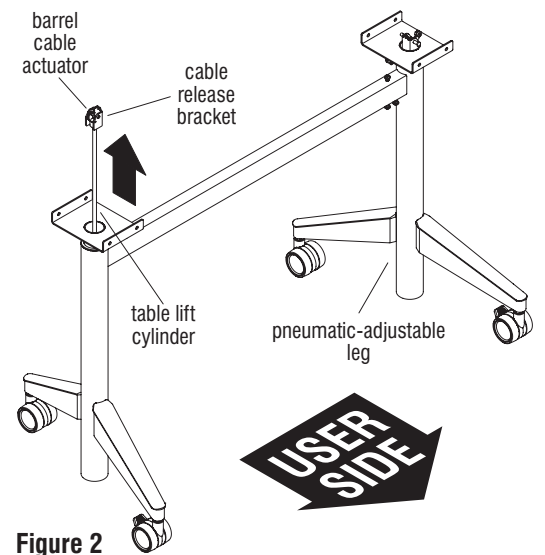

Figure 2
2. Flip the barrel cable actuator up as illustrated (Detail B). Press the barrel cable actuator onto the cylinder release button to raise the table lift cylinder to its maximum height (Figure 2 & Detail B).